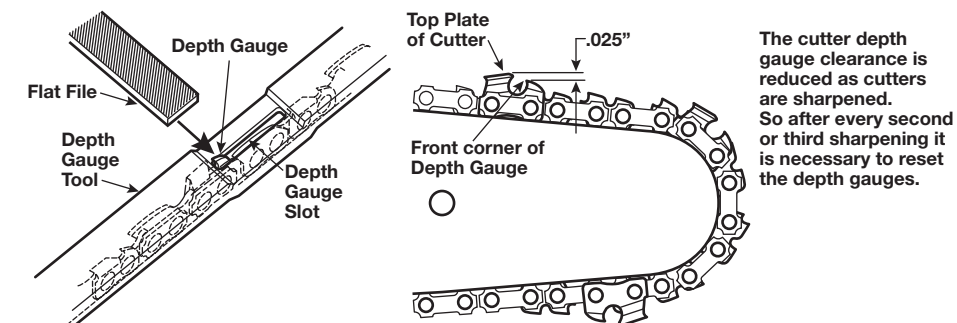

Fig. 21 Use a Flat File to reset the Depth Gauge Clearance
1. Place the depth gauge tool (.025") firmly across the top of two cutters. Make sure that the depth gauge enters the slot inside the depth gauge tool (Fig. 21).
3. Remove the depth gauge tool. Use the flat file to round off the front corner of the cutter depth gauge (Fig. 21).